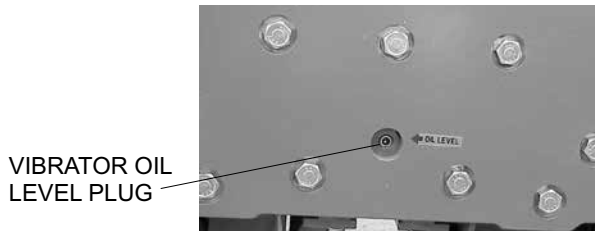

Figure 8. Checking Vibrator Oil Level
2. If any leakage is noticed, remove the level plug on the side of the plate (Figure 8).